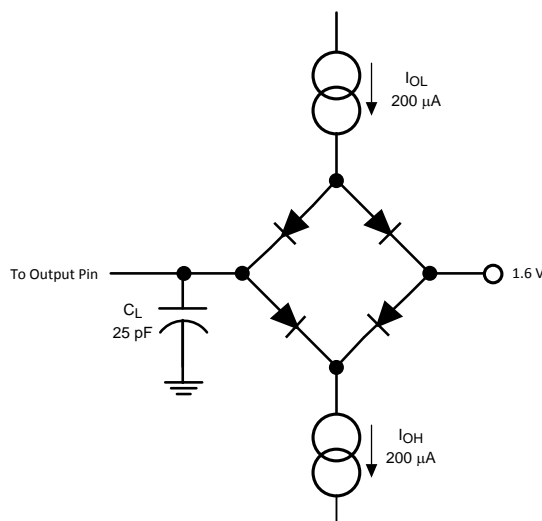

Figure 2. Timing Test Circuit
- (1) Measured with the timing test circuit shown in Figure 2 and defined as the time taken by the output signal to cross 1.0V.
- (2) Measured with the timing test circuit shown in Figure 2 and defined as the time taken by the output signal to cross 1.0V or 2.0V.
- (3) t_{DIS} is derived from the time taken by the outputs to change by 0.5V with the timing test circuit shown in Figure 2. The measured number is then adjusted to remove the effects of charging or discharging the output capacitance. This means that t_{DIS} is the true bus relinquish time, independent of the bus loading.